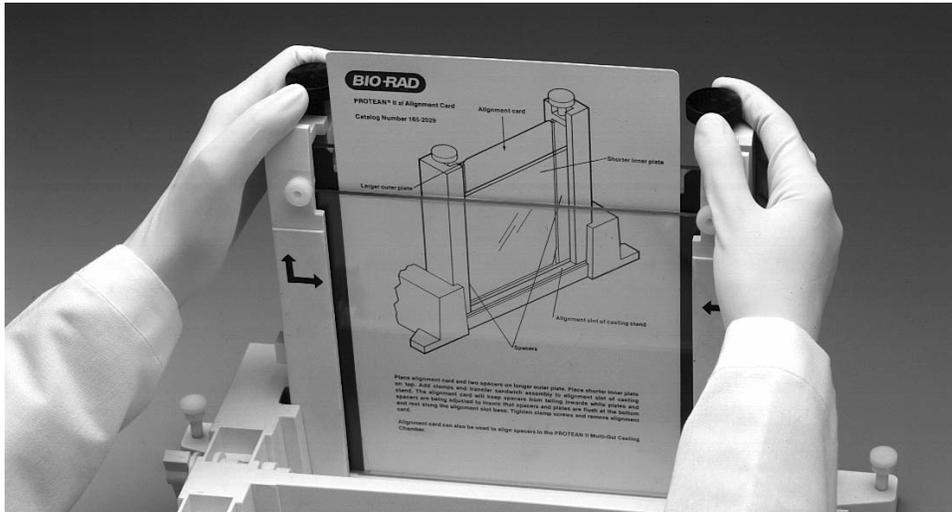

Fig. 4.26. Aligning spacers in the sandwich assembly.
5. Place the sandwich assembly in the alignment slot (the slot without cams) of the casting stand with the short glass plate forward (Figure 4.26). Loosen the sandwich clamps and insert an alignment card to keep the spacers parallel to the clamps.
6. Align the plates and spacers by simultaneously pushing inward on both clamps at the locating arrows while, at the same time, pushing down on the spacers with your thumbs. Tighten both clamps just enough to hold the sandwich in place. Pushing inward on both clamps at the locating arrows will insure that the spacers and glass plates are flush against the sides of the clamps (Figure 4.26).